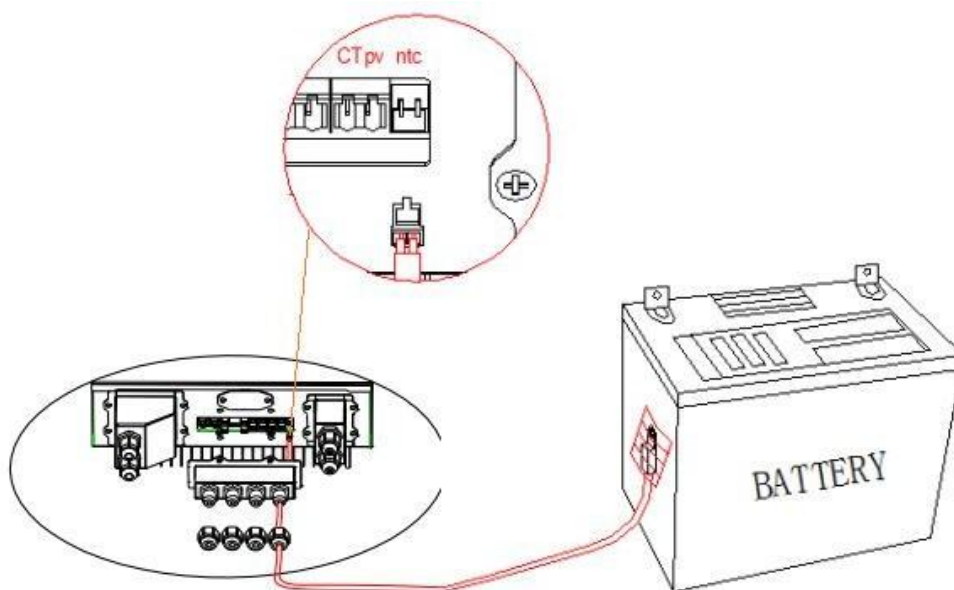

Fig. 13 NTC connection
Step 3: Loosen 4 screws (part A) using a screwdriver (fig. 13)